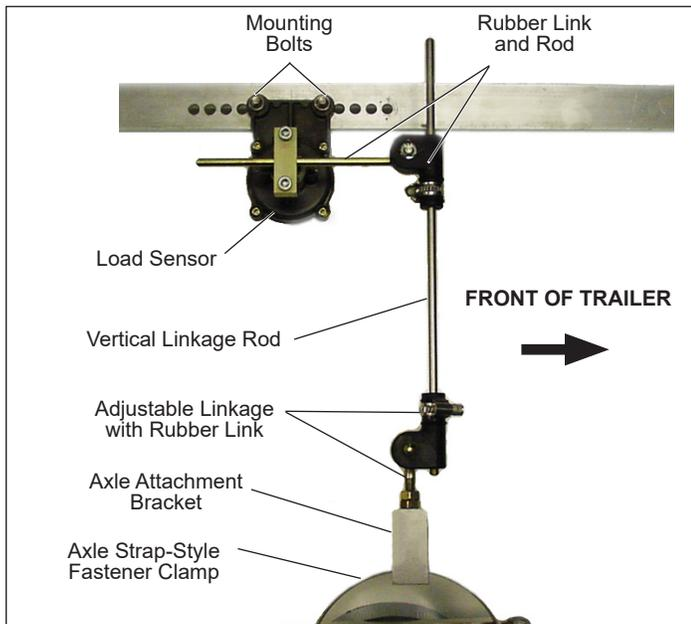

Figure 3 – Typical External Load Sensor Installation
- **External Load Sensor:** For spring suspension systems, an external electrical spring deflection sensor is installed – typically as close to the center (± 5 in. / 12.7 cm) as possible of an axle with linkage attached to the center of the axle (but **MUST NOT** be installed on a lift axle), See Figure 3. Vehicles with a mechanical load sensor have the port (P42) used for sensing the air suspension system plugged.
- **Load Sensor:** See Figure 3. If a trailer is equipped with an external electrical spring deflection sensor, a linkage is attached to an axle (but must not be installed on a lift axle) – within five (5) in. (12.7 cm) of the center of the axle – connects to a load sensor attached to the chassis of the vehicle. The output from the sensor is an electrical signal that is proportional to the spring deflection. The connection to the ECU is via the auxiliary 12-pin or 2.4 connector.